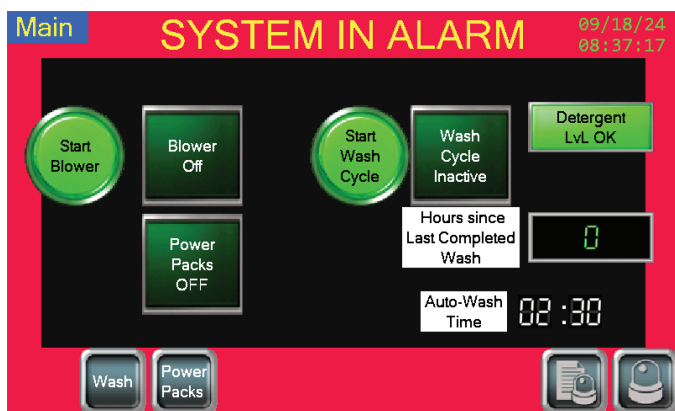

FIGURE 23. Alarm Event
1. During an Alarm Event, the borders of the Main Operator, Wash, and ESP Tier screens, will turn red and there will be an alarm banner across the screen. Figure 23 is an example of this state.